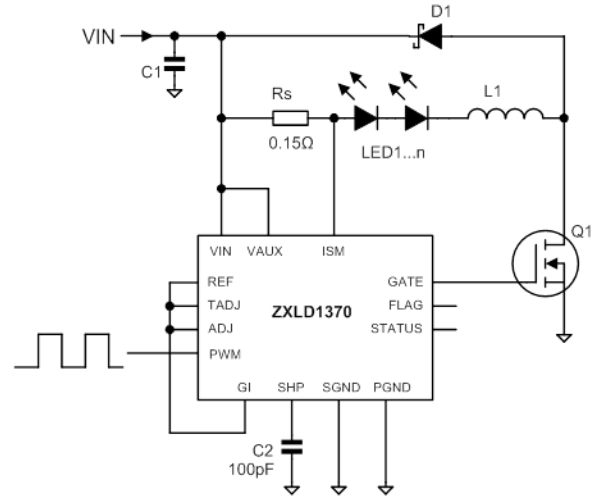

Figure 21 Buck Configuration
a) Buck Mode – the most simple buck circuit is shown in Figure 21